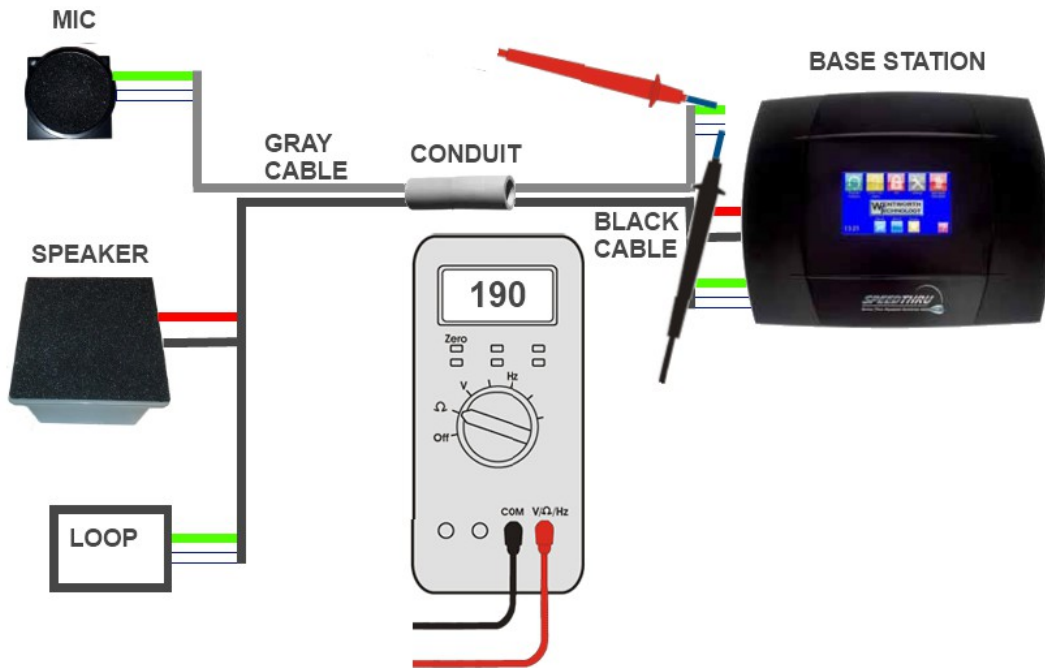

Figure 1: Testing the microphone at the base station (power off base for testing)
- Power off the base station and remove the mic wires from the base. Set meter to Ohms and measure across the two mic wires as shown in Figure 1.